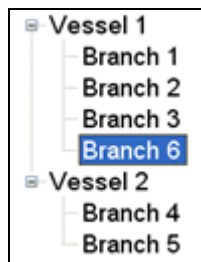

Figure 179. Vessel and Branch Numbering
- Deleted vessels and branches maintain their numbers. For example, if five branches are drawn and Branch 5 is deleted, the next branch drawn will be **Branch 6 (Figure 179)**.